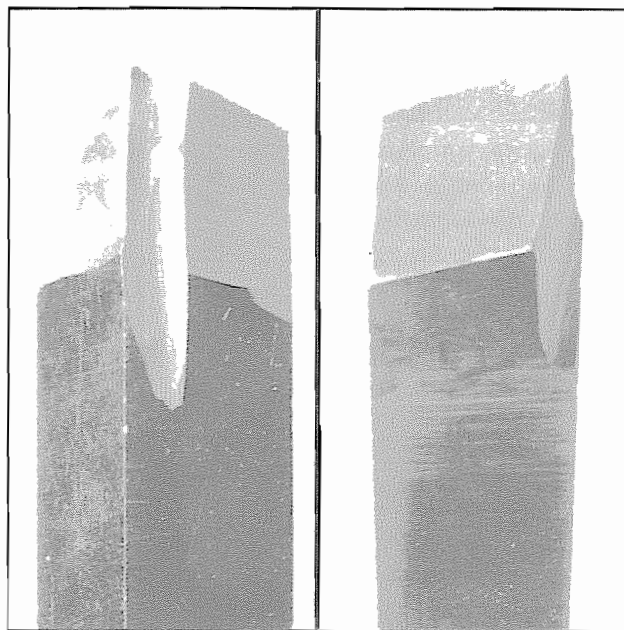
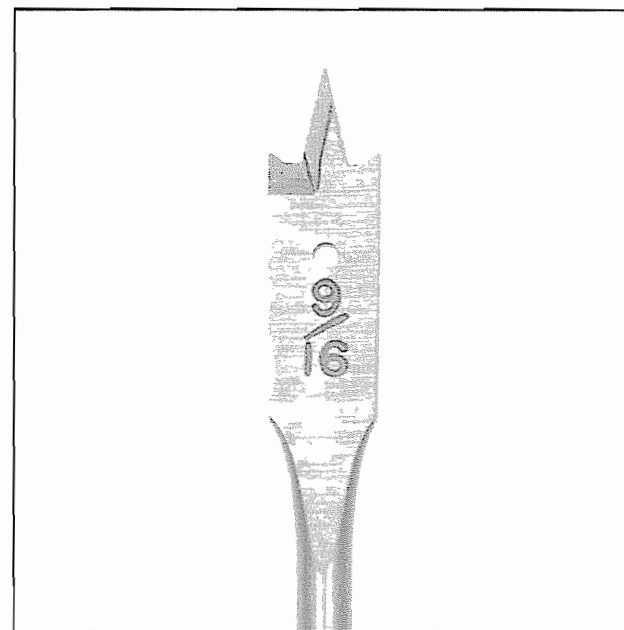

Figure 4-53. The lathe tool for cutting Nylon is ground with a steep clearance and cutting angle, and a slightly rounded point.
Figure 4-54. A "Speedbor" wood boring bit is the best tool for boring deep holes in Nylon.
**Important note.** When machining Nylon, use a standard, high speed steel cutter, but grind it with a steep clearance, and a steep cutting edge angle (**Figure 4-53**). Then round the point very slightly on an oil stone. For boring Nylon, use a spade-shaped wood boring bit called a **Speedbor** (**Figure 4-54**). Speedbors come in regular 6", and extra long 16"